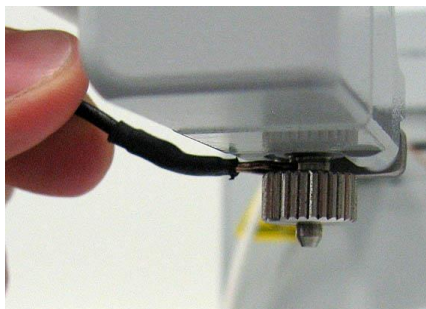

Fig. 28: Installing the normal-phase ground strip
5. Push the open clip end of the grounding cable from the normal-phase kit between the diverter valve and the drop former (→ Fig. 28).